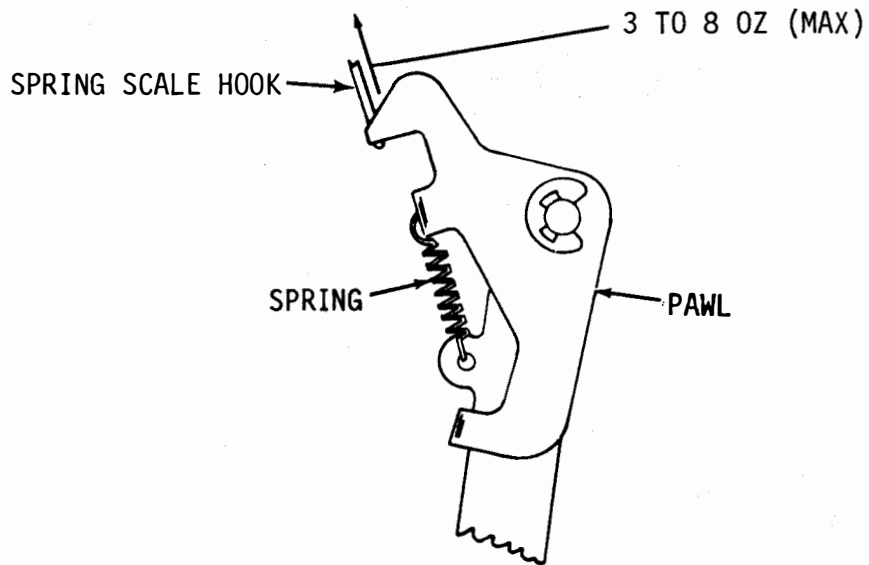

Figure 6-405. Form-Out Pawl Spring, Left Side View
(15) Form-Out Pawl Springs. Adjust as follows:
- Figure 6-405.